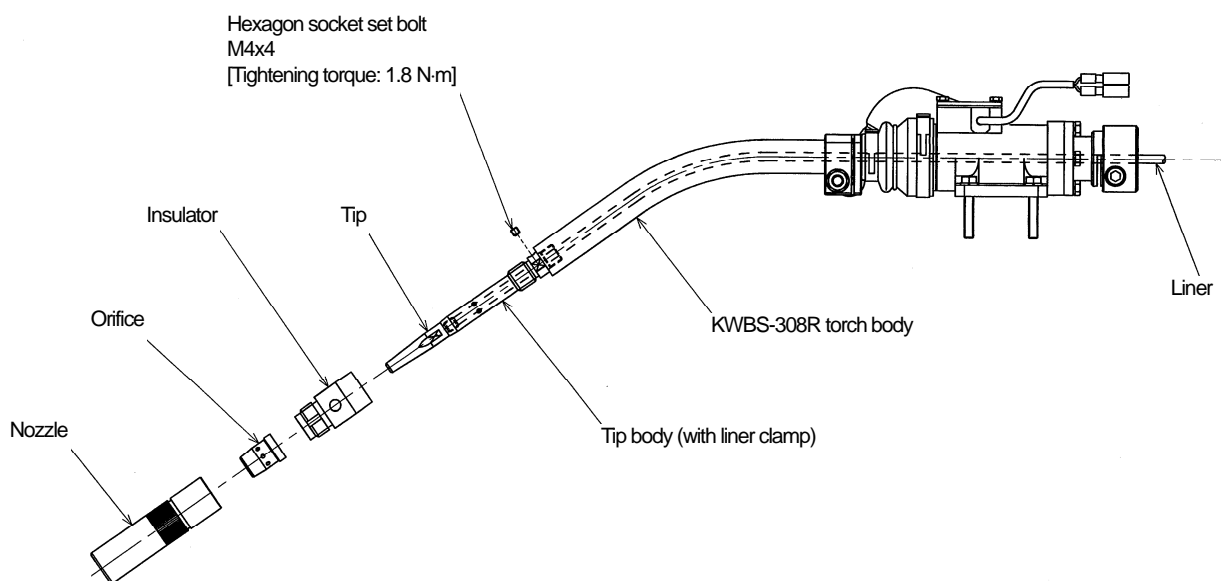

Figure 2.12 Liner clamp mechanism
1. Referring to the Figure 2.12, remove nozzle, orifice and insulator of the torch.